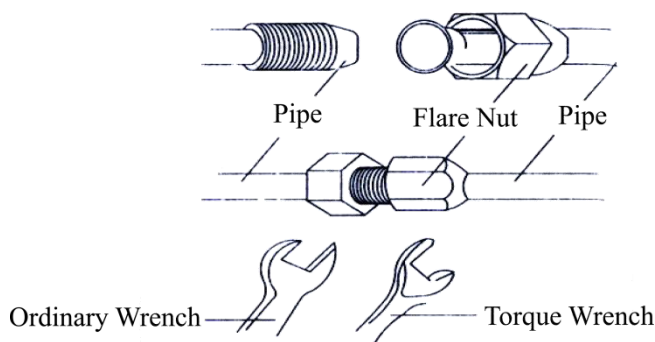

Fig.18
- b. After that, tighten the screw by the torque wrench unit it clatters (as shown in Fig.18).